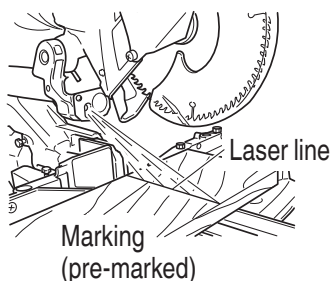

Fig. 14
- Check and make sure on a periodic basis if the position of the laser line is in order. As regards the checking method, draw a right-angle ink line on the workpiece with the height of about 20 mm and the width of 89 mm, and check that the laser line is in line with the ink line [The deviation between the ink line and the laser line should be less than the ink line width (0.5 mm)] (Fig. 14).